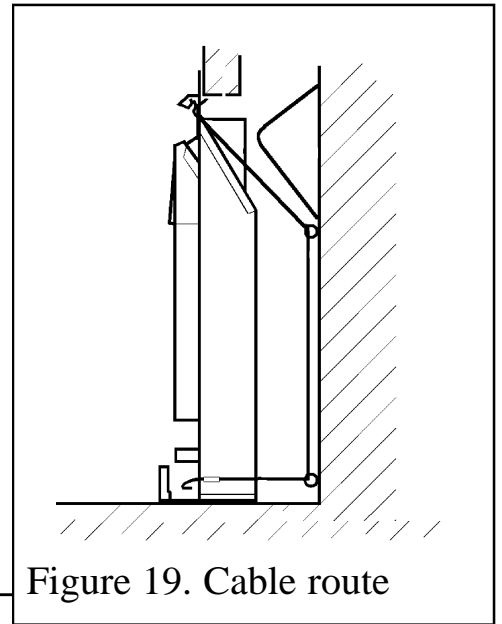

Figure 19. Cable route
6. Thread the cables through the upper eyebolts in the rear wall and then through the lower eyebolts. Return the cables through the holes near the bottom of the convection box back panel and through the "V" shaped brackets near the bottom front sides of the convection box (See figure 19).